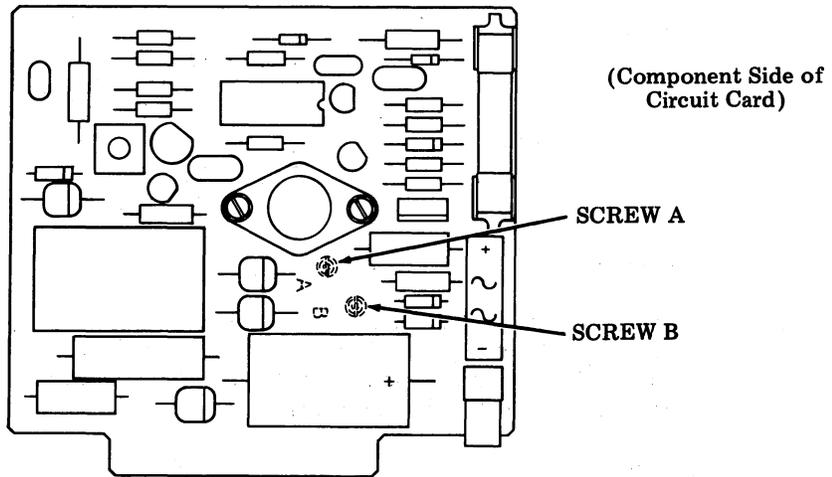

Fig. 27
2.65 Option screw A, (Fig. 27) when inserted from the component side of the 410151 circuit card assembly, connects circuit ground to frame ground. Applications utilizing the SSI printer interface must have Option A inserted. Option screw B could be inserted from the noncomponent side of the card.
2.66 Option screw A, (Fig. 27) when inserted from the component side of the 410151 Card Assembly provides the 410071, 410072 or 410076 printer logic cards with an unregulated positive voltage source for powering the OEM status and control signals from the printer to the OEM controlling device. Screw Option B must be inserted from the component side of the 410151 card when the OEM interface on the 410071, 410072 or 410076 card is used.
2.67 Circuit ground may be terminated to frame ground in the printer by leaving Option screw A (Fig. 27) inserted from the component side. Optionally, the user may wish to terminate circuit ground to frame ground on the user side of the OEM interface. In this case, optional screw A must be inserted from the non-component side of the card. Whatever the case, circuit ground must be terminated to frame ground.